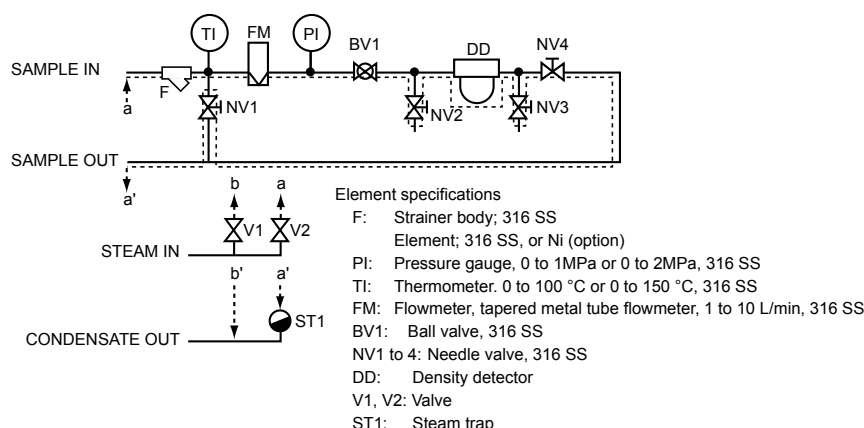

Figure 5.2 Flow Diagram
P.4-9 Figure 4.5 Flow Diagram added, P.5-1 Figure 5.2 Flow Diagram added, CMPL 12T3H1-01E revised to 6th edition.